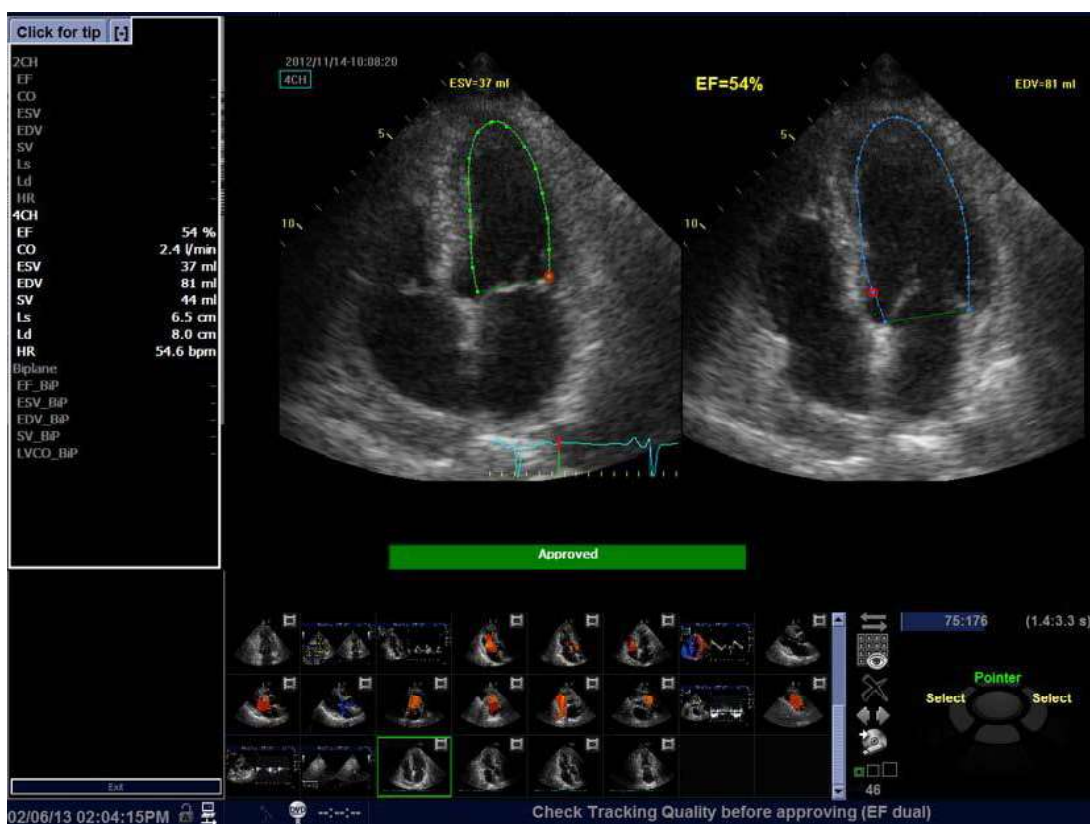

Figure 13-162. AutoEF Results Dual Screen - Alternative screen mode
- Press **EF Dual** to enlarge ES and ED frames and position them side-by-side (Figure 13-162 on page 13-291).